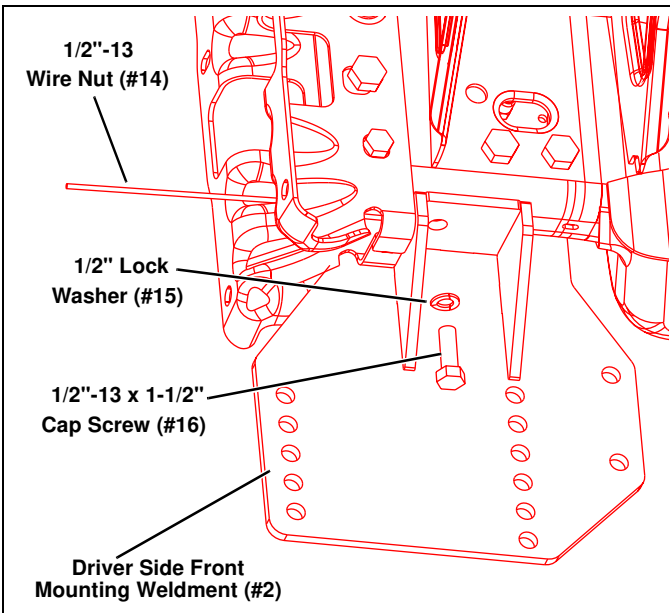

Figure 7
- Insert a 1/2"-13 x 1-1/2" Cap Screw (#16) through a 1/2" Lock Washer (#15), the Driver Side Front Mounting Weldment (#2), and truck frame rail. Secure using a 1/2"-13 Wire Nut (#14). (See Figure 7.)